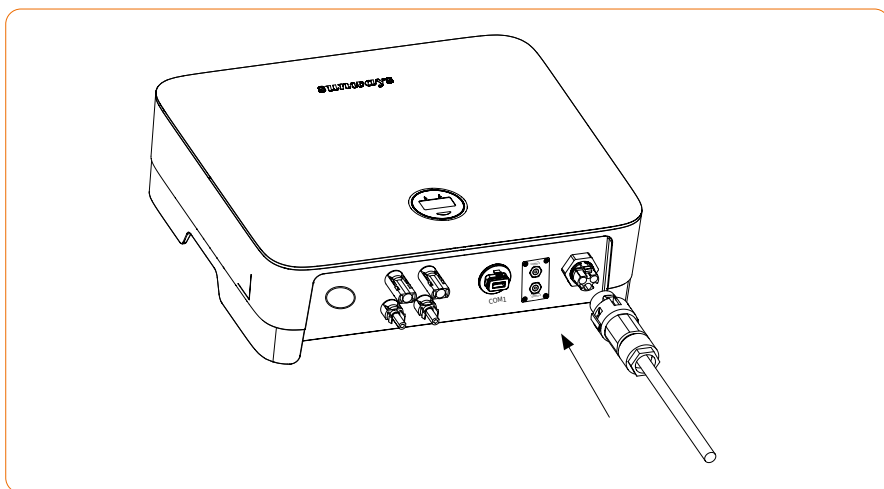

Figure 4-20 Connect the AC connector
2. Connect the AC connector to the inverter AC terminal, and the slight click shows that the connection is in the place. As shown in figure 4-20: